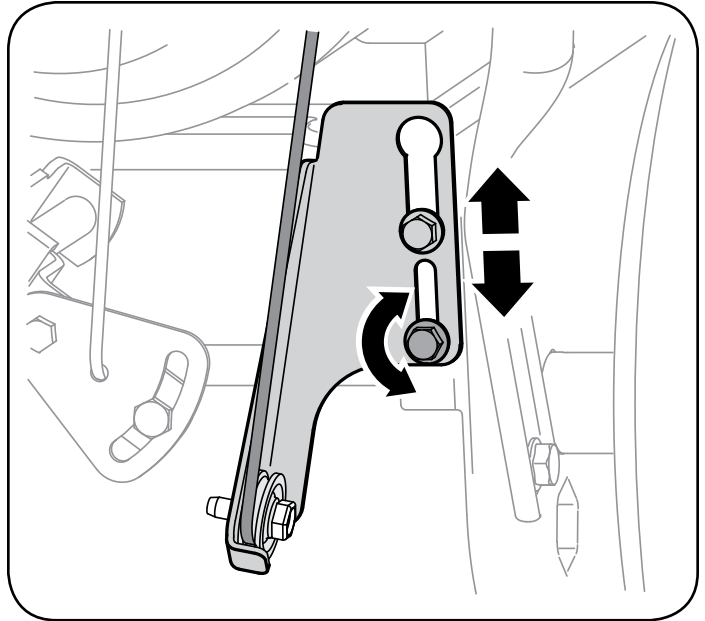

Figure 22
5. Loosen the lower hex nut on the drive cable bracket. See Figure 22.